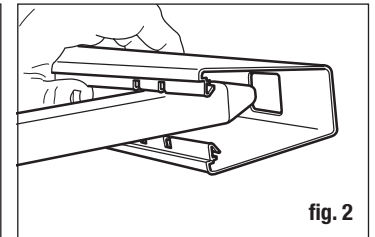
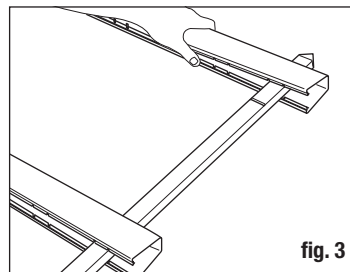

fig. 2
fig. 3
- Insert a picket into the throat of the rail, and proceed through the routed hole as shown. **DO NOT SNAP INTO PLACE** (fig. 2).
- Continue to push the picket through the bottom rail into the throat and hole of the second rail (fig. 3). The second rail becomes the top rail of the assembly. Stop when the tab in the bottom rail and the notch on the picket align. **DO NOT SNAP INTO PLACE.**
Post hole spacing is 96 in. post-center to post-center (fig. 2). Mark post hole locations along string line. Double check all measurements. Check local regulations for any special requirements for post hole depth. The fence will be stronger if the end, corner and gate posts are set at least 6" deeper than the line posts. Using a posthole digger or power auger, dig the holes 10-12" wide and 6" deeper than needed. Backfill the holes with 6" of gravel to drain water away from the bottom of the posts (fig. 3). Keep the height of your fence panels in mind when digging your postholes.
- Insérez un piquet dans la gorge de la traverse et dans le trou préparé, comme montré. NE PAS ENCLIQUER EN PLACE (fig. 2).